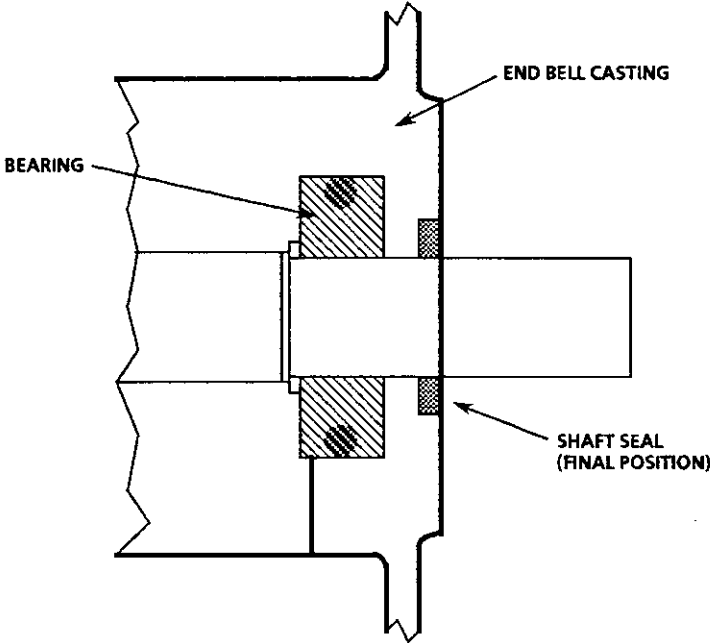

Figure 8.4 – Shaft Oil Seal Installation
- 2. Place the seal over the shaft (see Figure 8.4). The seal must be installed with the solid shield side facing the motor bearing.